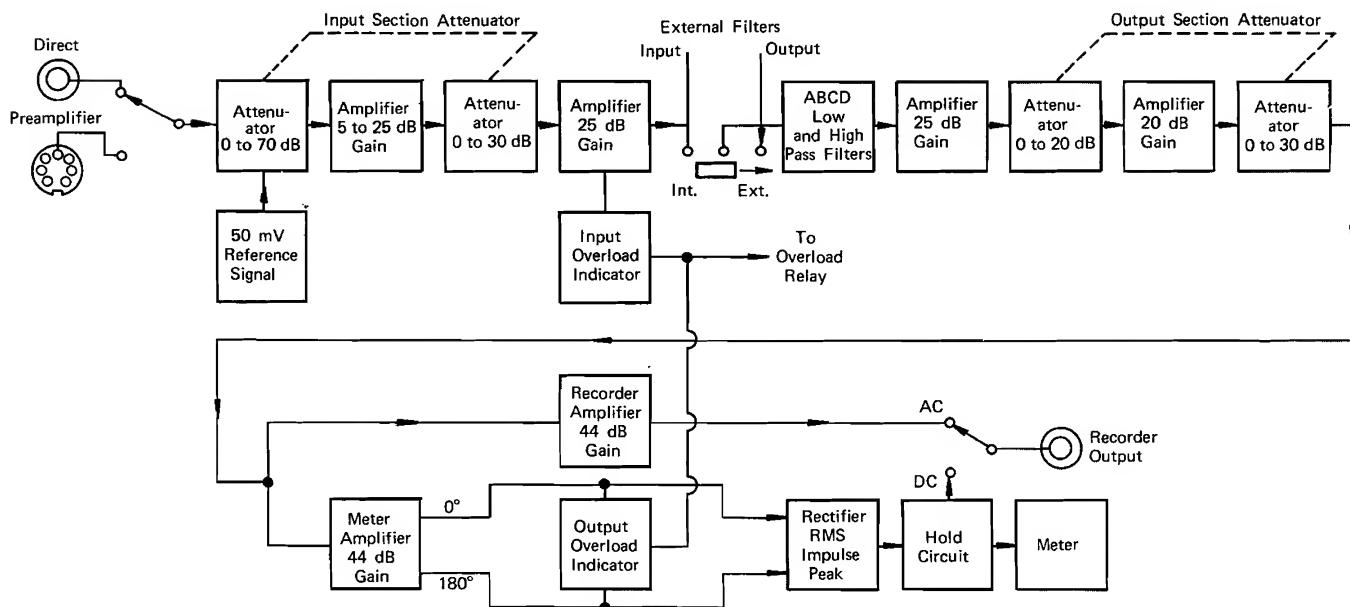

Fig. 4.1. Block diagram of the 2606 Measuring Amplifier
- The measurement characteristics of the 2606 will be discussed with reference to the block diagram of the instrument shown in Fig.4.1.
In the 2606, the variable squaring characteristic is obtained by feeding back the voltage E on the averaging capacitor C_A to the squaring circuit. When the input signal voltage e (in the actual circuit e is the in-phase and 180° out of phase signal from the Meter Amplifier. See Fig.4.1), exceeds the level of the voltage on the averaging capacitor the